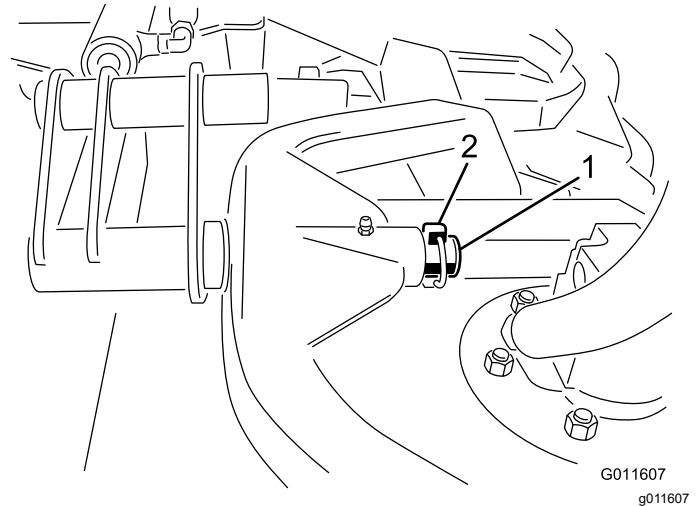

Figure 4
3. Slide the deck carrier frame onto lift-arm pivot pin and secure it with the lynch pin (Figure 4).